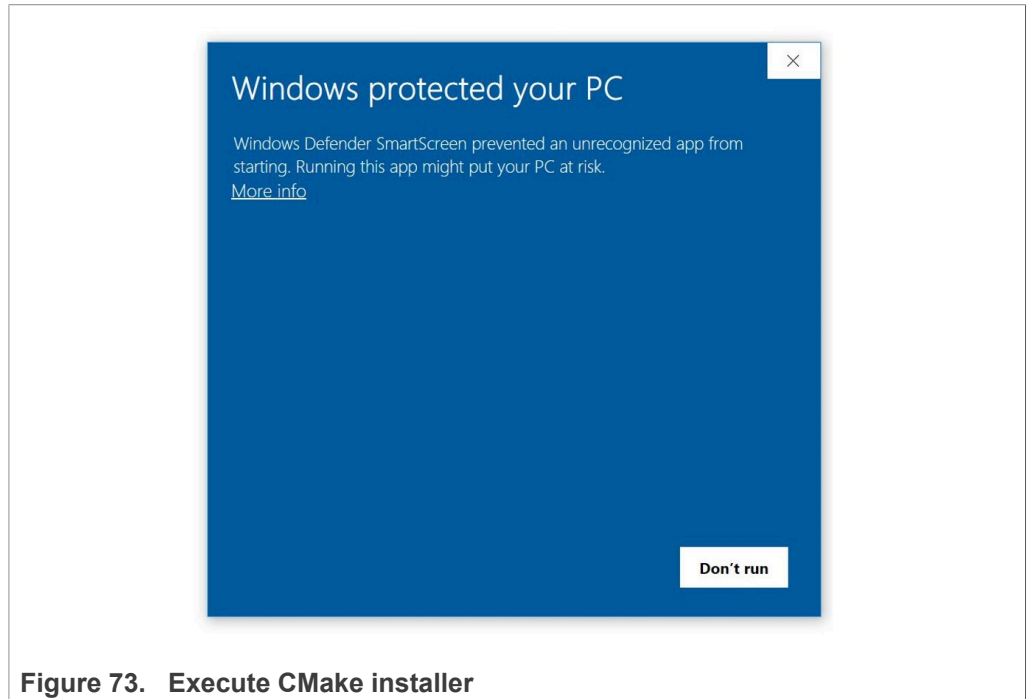

Figure 73. Execute CMake installer
- Double click on the downloaded installer file. Windows Defender SmartScreen might pop-up the wizard shown in Figure 73: